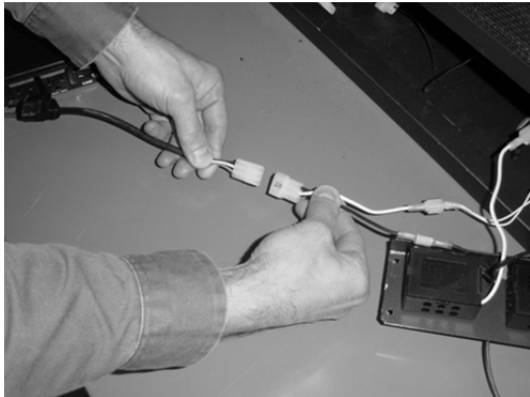
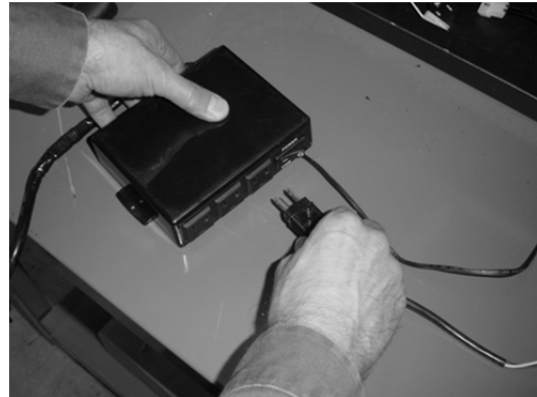

Figure 26
Figure 27
- 16 Disconnect the power lead from accent light and connect it to the power lead included with this kit (see Figure 26). Attach the power lead to the fan controller in the "AUX OUT" receptacle (see Figure 27).